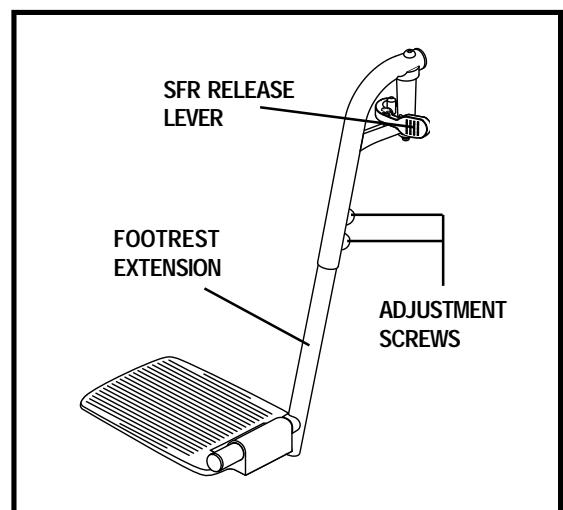

Figure 19. Swing-Away Footrests
1. Push in the SFR release lever. See figure 19.
1. Remove the two screws from the side of each leg rest extension. See figure 19.